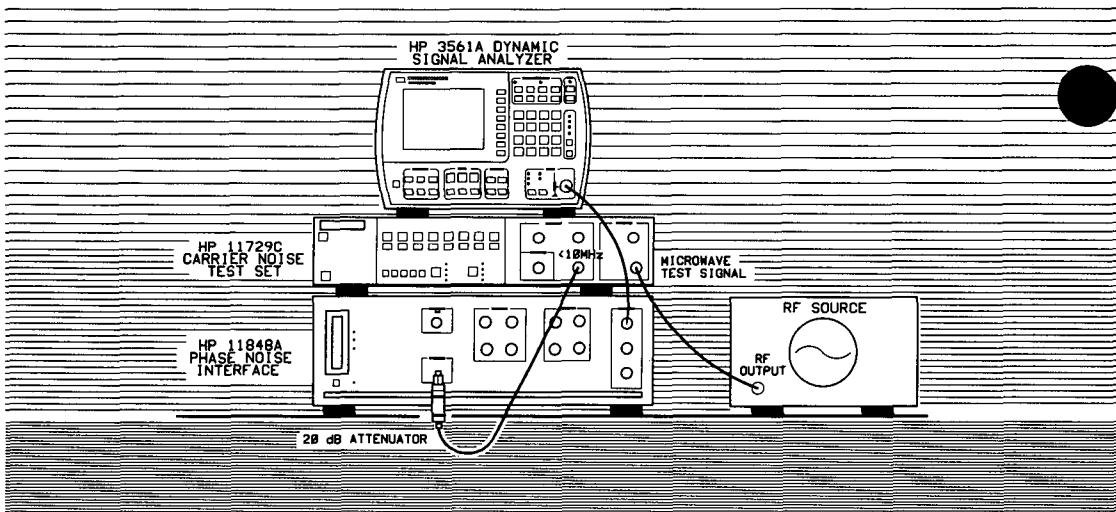

Figure 3-28. Setup diagram for AM Noise Measurement Example.
3. When the Connect Diagram appears on the HP 3048A's display, connect the signal paths as shown in Figure 3-28.